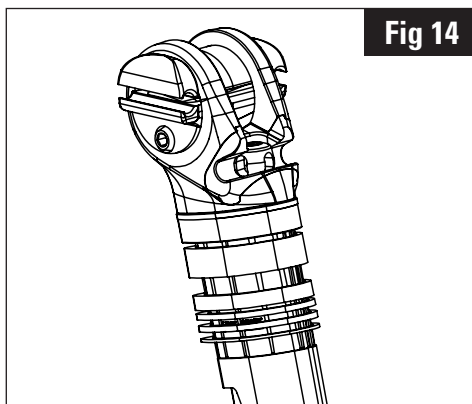

Fig 14
2. Place the spacers on the seatpost as indicated on fig. 14.